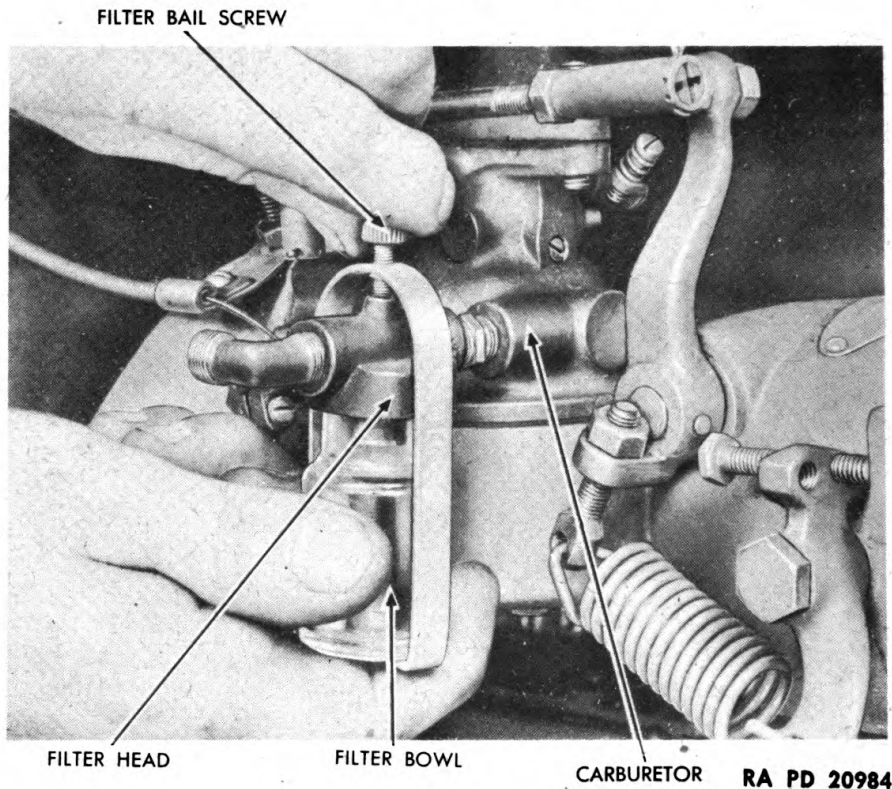

Figure 20 — Gasoline Strainer Removal
47. GASOLINE STRAINER (fig. 20).